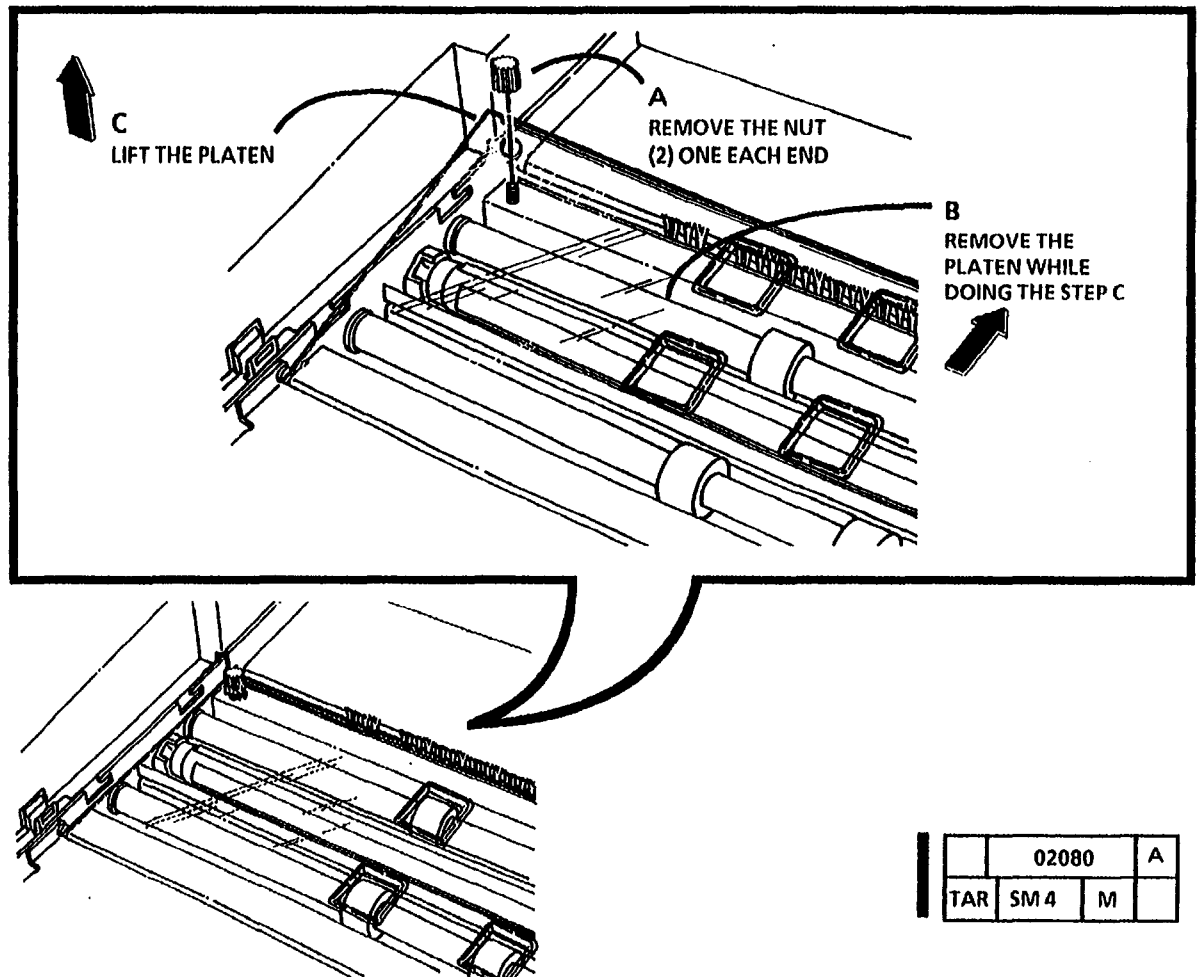

Figure 1. Remove the Platen
3. (Figure 1): **W/ Tag/MOD 2:** Remove the Platen.